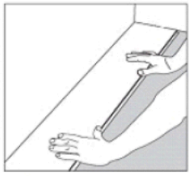

Figure 1
1. Starting from the RIGHT side in relation to the installation room, with the tongue facing the wall, carefully place the first board in place (Figure 1)